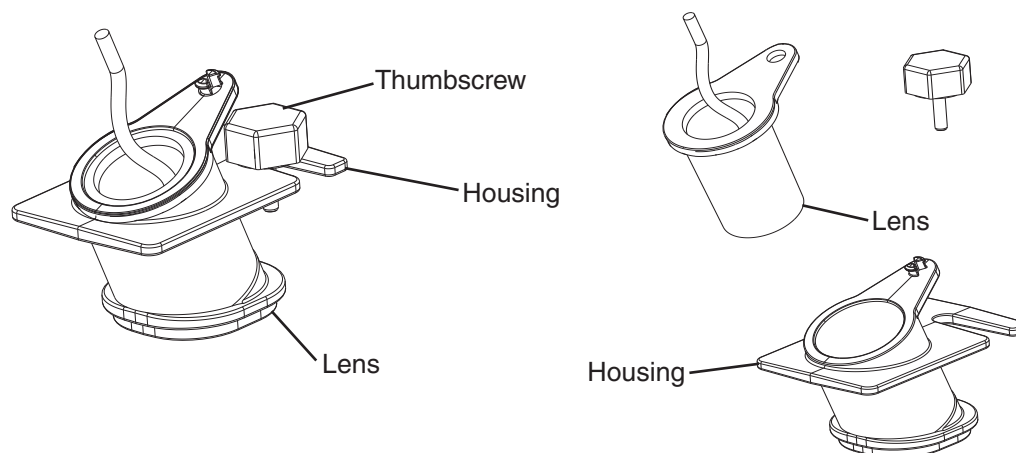

Fig. 3
- 3) Confirm that BC1 is connected to CB K10 connector. Wipe down BC1 lens with a warm, clean, damp cloth. If the bottom of the icemaker is not accessible in your application, remove the thumbscrew securing the BC1 housing, then remove the housing from the base. See Fig. 3.
7) CB "GM" and "COMP" LEDs are on. Use an object to cover BC1 lens at the bottom of the icemaker. If the bottom of the icemaker is not accessible in your application, remove the thumbscrew securing BC1 housing, remove the housing from the base, then cover BC1 lens. See Fig. 3. The CB BC1 "BIN FULL" orange LED on turns on. After the orange LED turns on, BC1 shutdown delay timer starts. See "III.B.11.b) BC1 (Ultrasonic Sensor) Shutdown Delay (S2 dip switch 1, 2, 3)." Comp (LLV/SLV on MLKZ model) should de-energize immediately after the shutdown delay timer terminates. 5 min. later, GM and FM/FMR should de-energize.